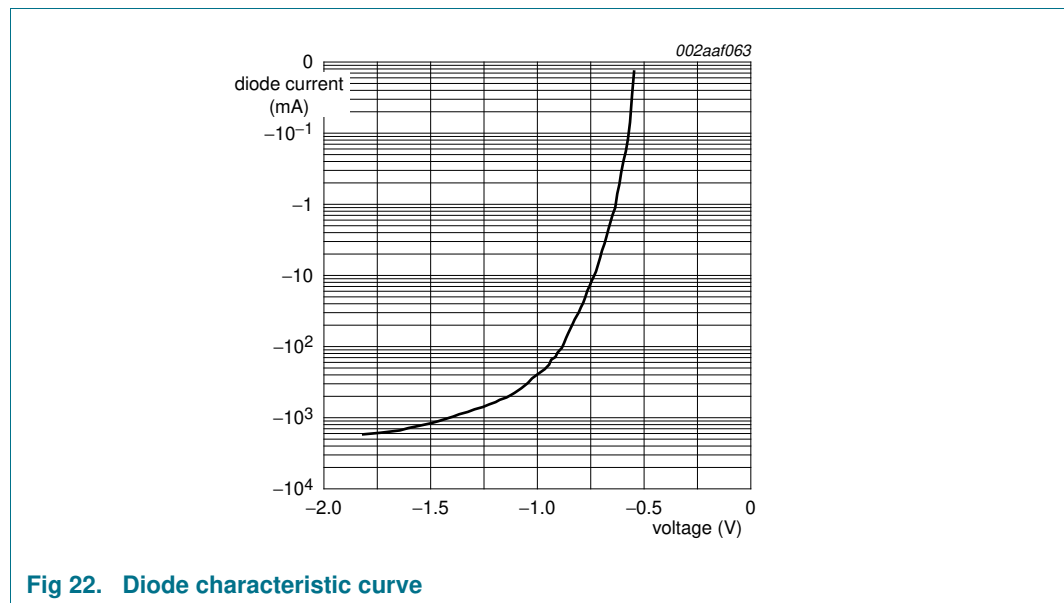

Fig 22. Diode characteristic curve
Figure 22 shows the measured characteristic for one of those diodes inside PCA9600. The plot was made using a curve tracer that applies 50 Hz mains voltage via a series resistor, so the pulse durations are long duration (several milliseconds) and are reaching peaks of over 2 A when more than  $-1.5\text{ V}$  is applied. The IC becomes very hot during this
For the PCA9600, in specific applications, there will always be transient overshoot and ringing on the wiring that can cause these diodes to conduct. Therefore we designed the IC to withstand those transients and as a part of the qualification procedure we made tests, using DC currents to more than twice the normal bus sink currents, to be sure that the IC was not affected by those currents. For example, the TX/TY and RX/RX pins were tested to at least -80 mA which, from Figure 22, would be more than -0.8 V. The correct functioning of the PCA9600 is not affected even by those large currents. The Absolute Maximum (DC) ratings are not intended to apply to transients but to steady state conditions. This explains why you will never see any problems in practice even if, during transients, more than -0.3 V is applied to the bus interface pins of PCA9600.
Figure 22 “Diode characteristic curve” also explains how the general Absolute Maximum DC specification was selected. The current at 25 °C is near zero at -0.55 V. The PCA9600 is allowed to operate with +125 °C junction and that would cause this diode voltage to decrease by  $100 \times 2 \text{ mV} = 200 \text{ mV}$ . So for zero current we need to specify -0.35 V and we publish -0.3 V just to have some extra margin.